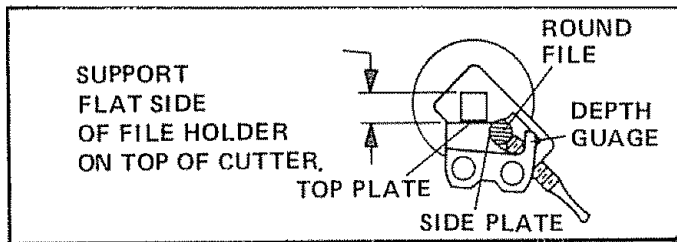

Figure 36
- a) Support flat side of file holder (with 3/16" round file) on cutter top plate. Figure 36